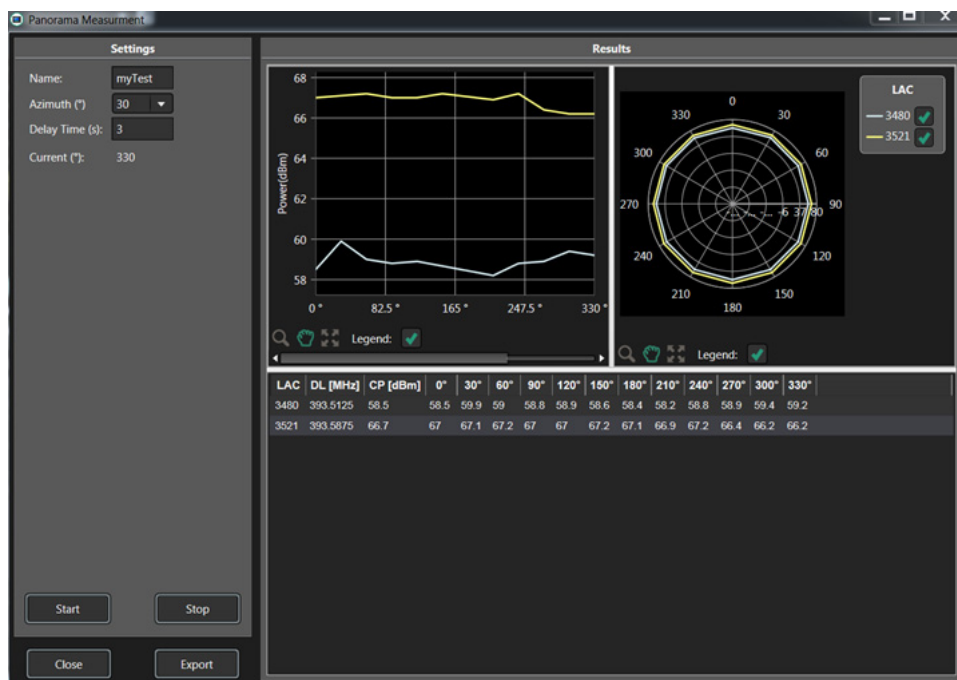

Figure A-8. Panorama Measurement
13. Once completed, click **Export** to view the report. See Figure A-8, “Panorama Measurement” for the illustration of a completed measurement.